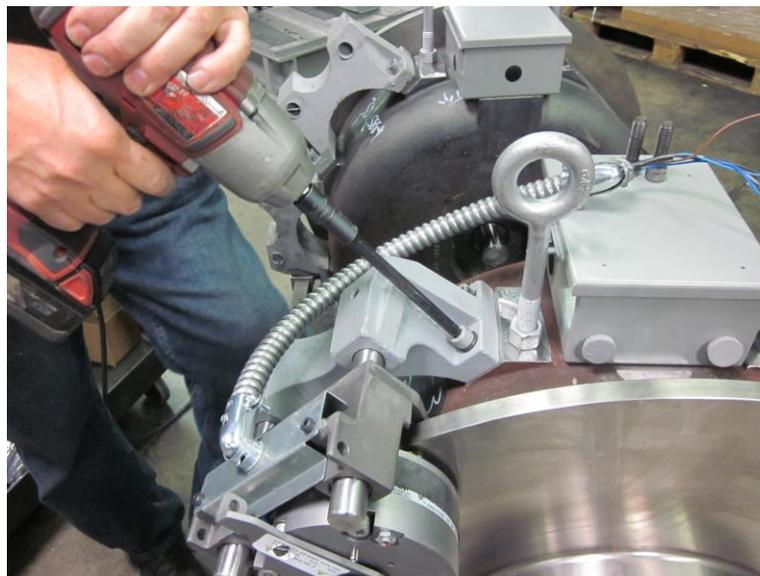

Figure 9
- After the loosening brake bolts, remove the 4 bolts in the brake base holding the entire brake assembly to the housing. Refer to Figure 9. Move brake assembly to a work area, then remove brake from base. See figure 10